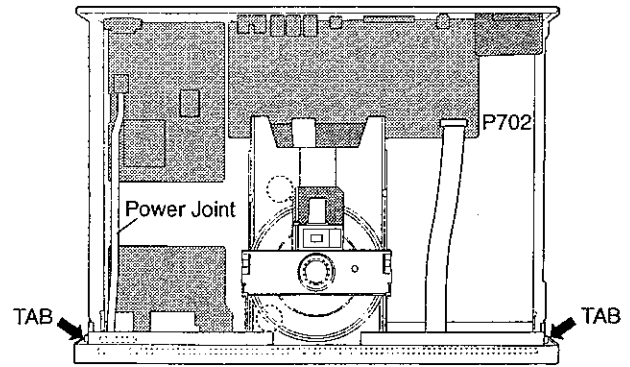

Fig. 2.3.2
- (5) Disconnect the flat cable from the P702 connector on the Output P.C.B. Ass'y. See Fig. 2.3.2.
- (6) Release the tabs on both sides of the unit and remove the Front Panel Block by gently pulling it forward. The Power Button will be disengaged from the Power Joint.